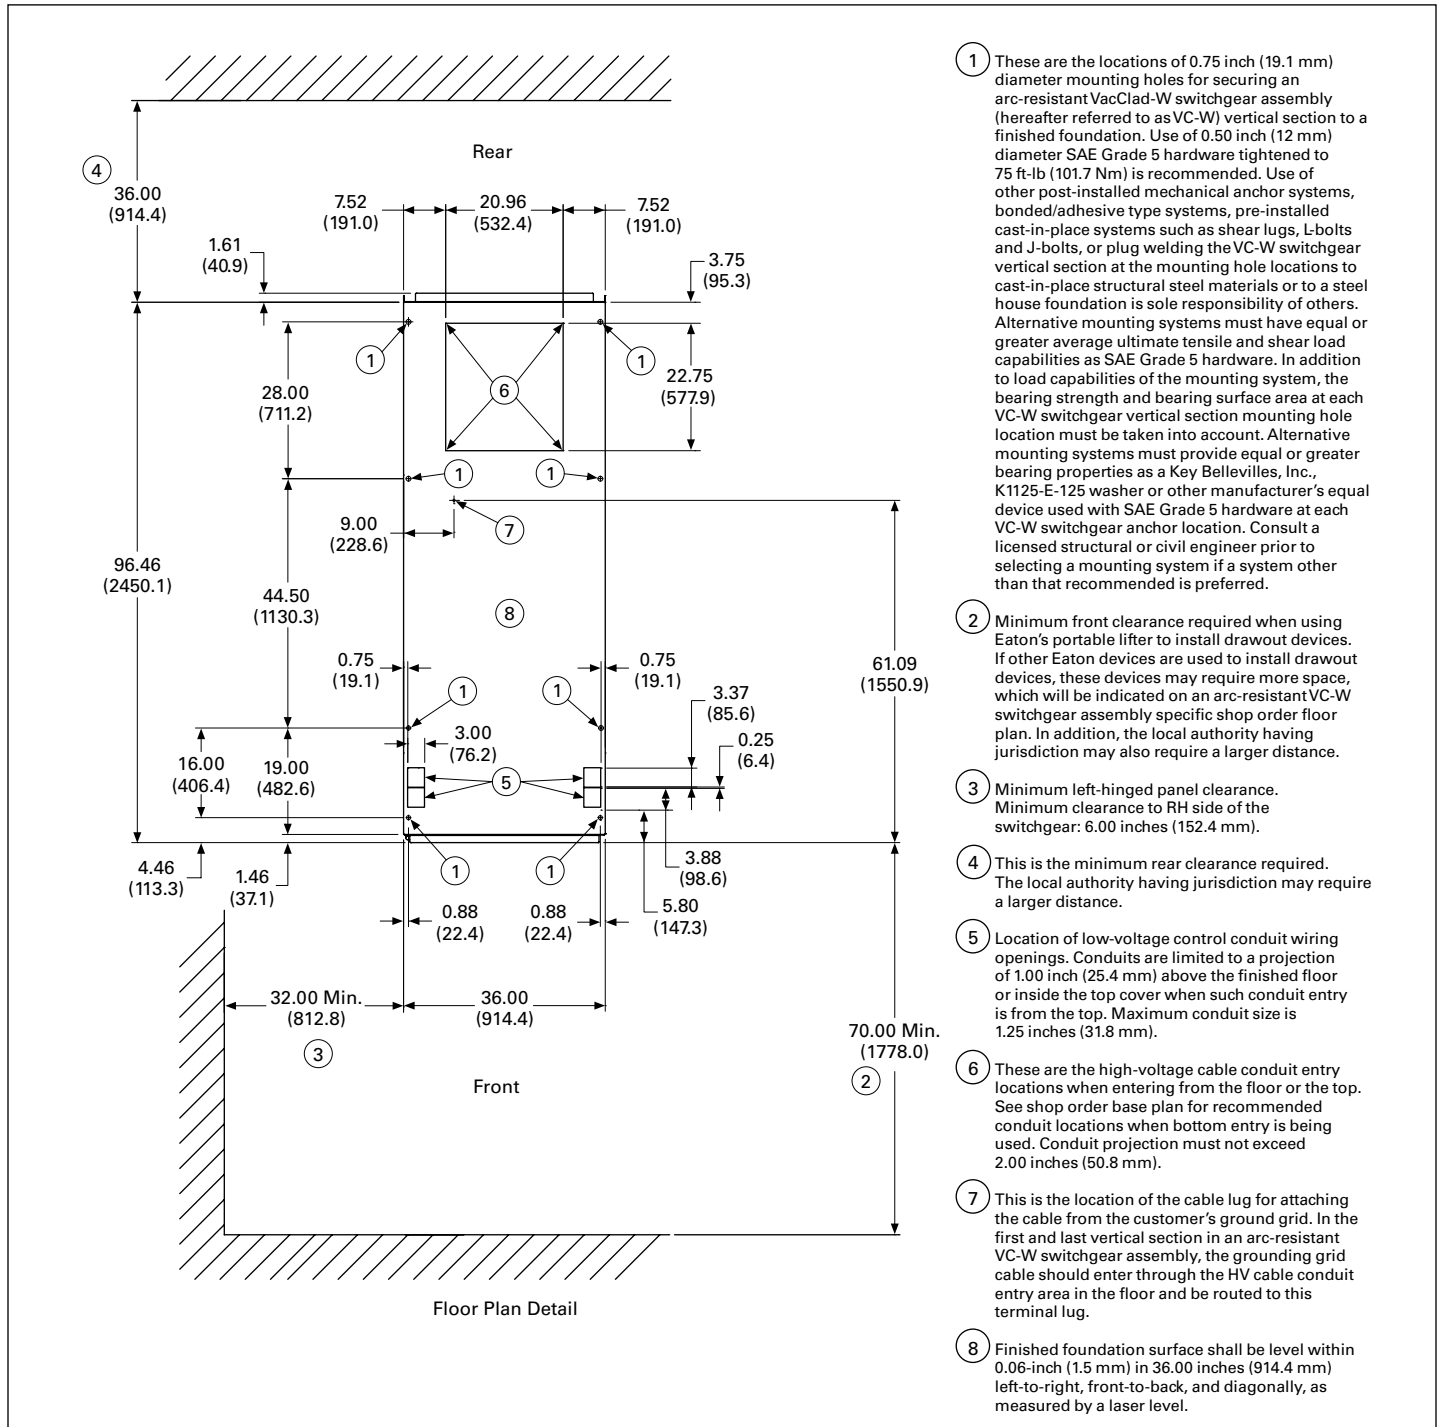

Figure 5.3-22. Typical Arc-Resistant Switchgear Floor Plan—5 and 15 kV
4. Refer to **Figure 5.3-17** to **Figure 5.3-22** for dimensions.